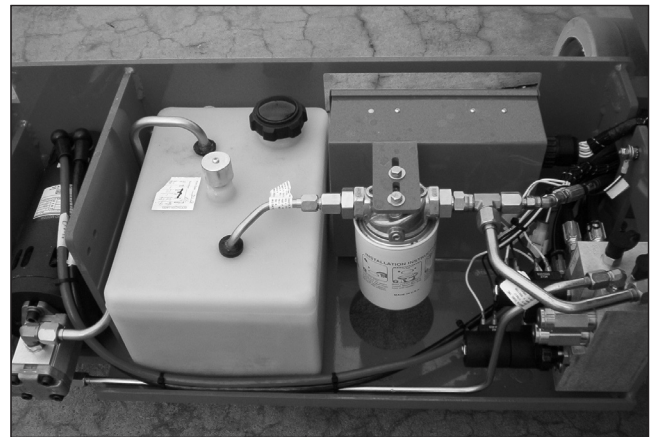

Figure 8.7 – Hoses, Tubes, and Fittings
- Inspect all hydraulic hoses, tubes, and fittings for wear, leakage, or damage (refer to Figure 8.7).